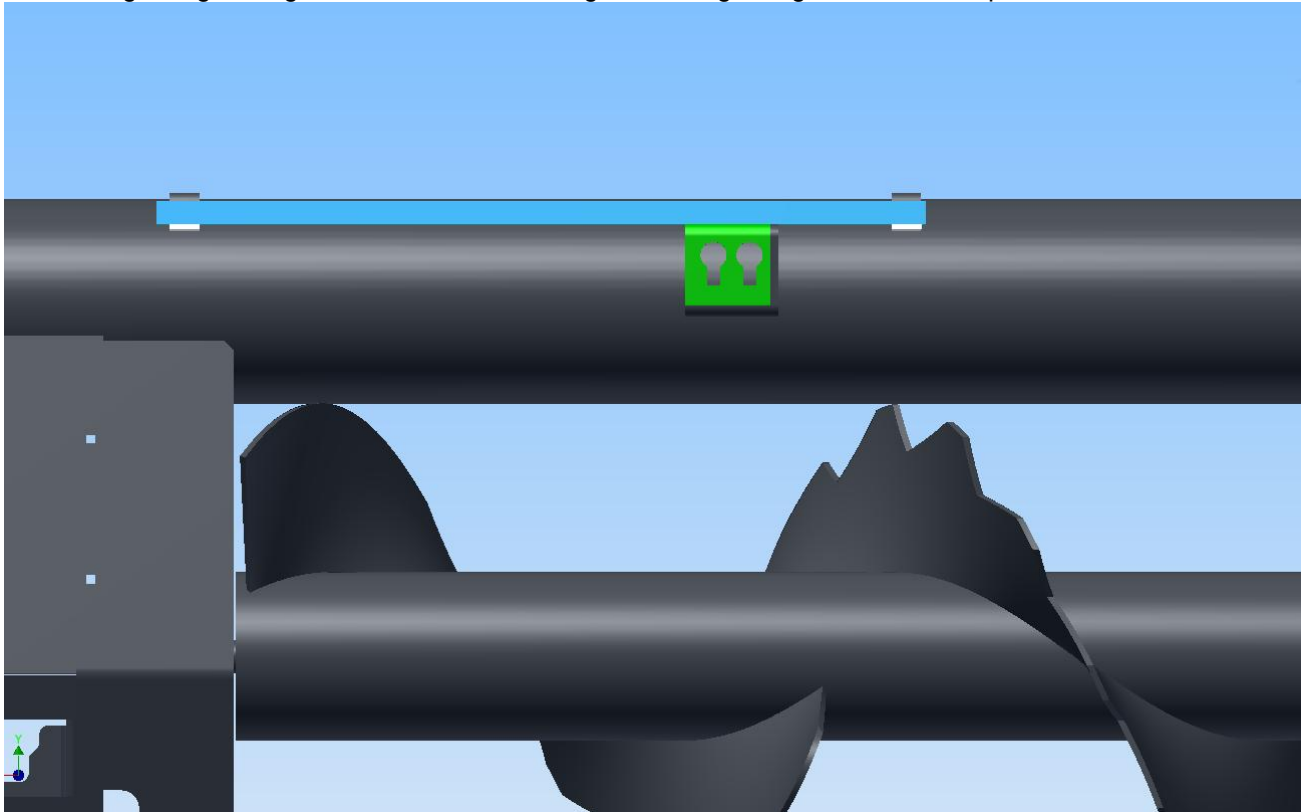

FIGURE 8 STRAIGHT EDGE ON LINES FOR TOP OF THE MOUNT BRACKET
10) Place a straight edge along the lines as shown in Figure 8 straight edge on lines for top of the mount bracket